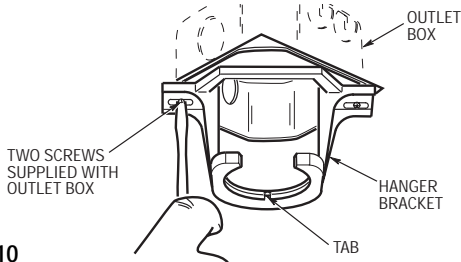
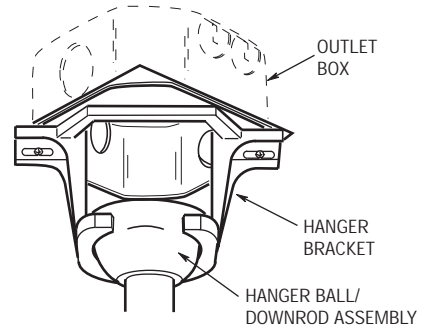

Figure 10
Figure 11
- 1. Securely attach the hanger bracket to the outlet box using the two screws supplied with the outlet box. (Figure 10.)
- 2. Carefully lift the fan and seat the hanger ball/downrod assembly on the hanger bracket that was just attached to the outlet box (Figure 11). Be sure the groove in the ball is lined up with tab on the hanger bracket (Figure 10).